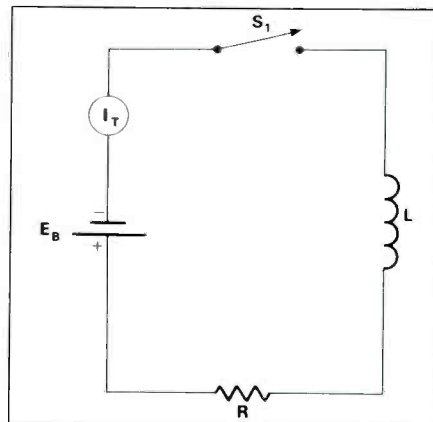
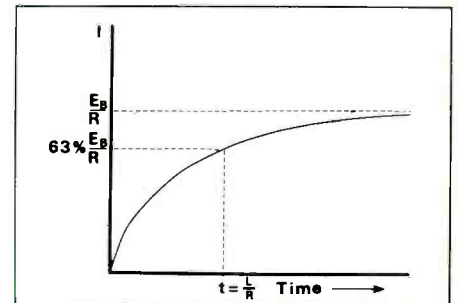

Figure 2
Figure 3
Inductance in combination with resistance also demonstrates time-related effects, and we will trace the process verbally first, then state the formula that applies. *Fig. 2* is a schematic of a circuit consisting of a battery (E_B), a switch (S_1), a resistance (R) and an inductor (L). The resistance represents the series combination of the internal resistance of the inductor (usually very low) and any other "pure" resistance in the circuit. Therefore, in this discussion the inductor itself can be a "pure" inductor, with no internal resistance. At first, it might seem that there would be no time-related effects in the circuit of *Fig. 2*; the inductance is just a coiled conductor, having zero resistance, so the
is changing with time. Since going from a no-current to a current-flow condition represents an instantaneous change, the back-EMF is sufficient to prevent current flow completely at the instant the switch is closed. This opposition slows down the rate of change of the current, and the back-EMF is reduced as a result. This process of accommodation continues as the current rises smoothly towards its full Ohm's Law value. *Fig. 3* is a graph of current versus time in the circuit of *Fig. 2*. The time it takes for the current to reach 63% of its Ohm's Law value can be found by dividing